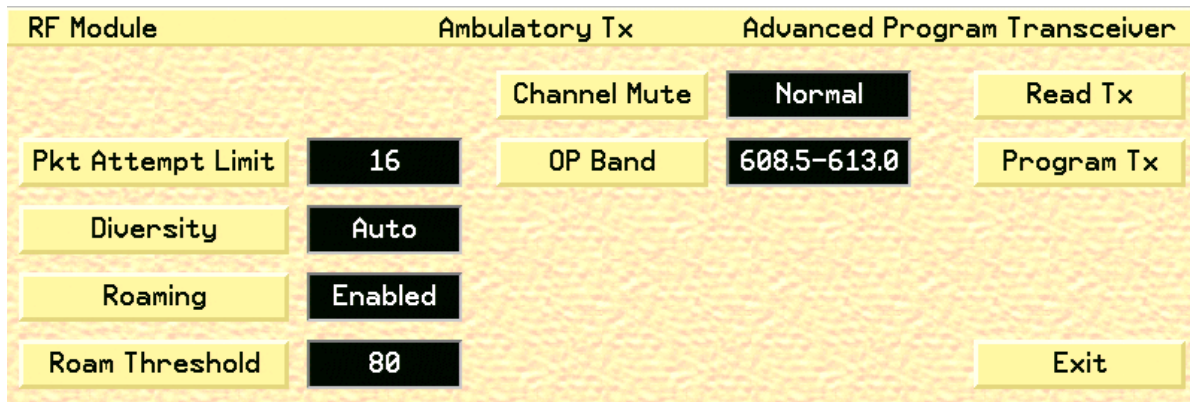

Fig. 80. RF Module Advanced Programming screen, AT
15. Click the **Advanced RF** button to display the Advanced Program Transceiver RF Module screen (see fig. 80 on page 127).
3. Click the **Advanced RF** button to display the RF Module Advanced Program Transceiver screen (fig. 80).